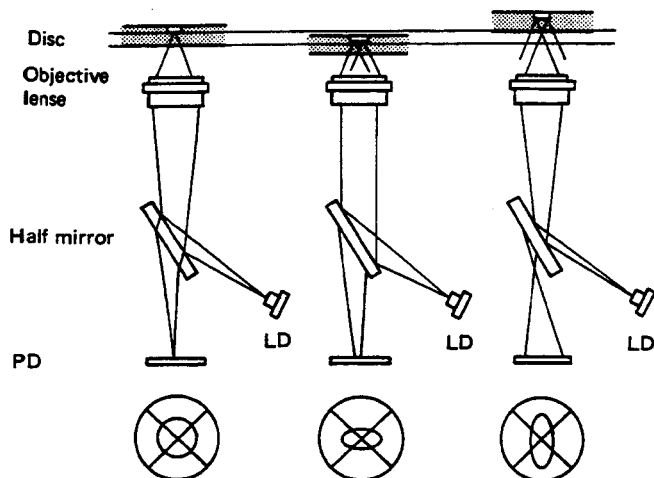
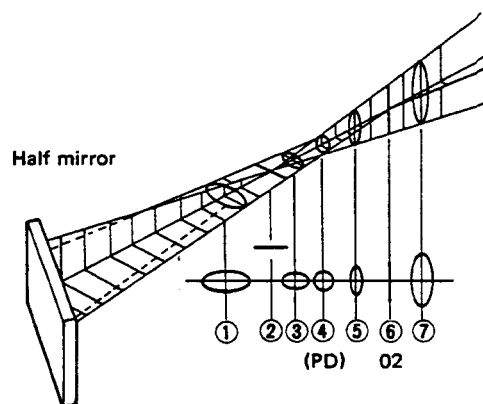

Fig. 2-3
Fig. 2-4 Half mirror
Fig. 2-3 shows how the focus signal is detected. (1) is when the beam from the laser diode is accurately focused on the disc by the objective lens. (2) shows what happens when the disc comes closer to the pickup and (3) shows what happens when the disc moves farther away. The grating and concave lens, which have no direct effect on the focusing are not shown in the diagram.
In case (1), the beam emanating from point O1 is reflected and diffracted on the disc surface to produce the condensed beam (O2). In case (2), the beam is directed at a point farther than that of beam O2. Fig. 2-4 shows the properties of the half mirror. 1 through 7 shows the shape of the beam at each point. Between points 2 and 6, which are in a straight line, the beam is circular at point 4. Point 6 corresponds to beam O2 of fig. 2-3. If we assume that fig. 2-4 shows mode (1) of fig. 2-3, that means the beam is circular because the photo diode is located at point 4. In mode (2) of fig. 2-3, the location of the photo diode is closer to the cylindrical lens than it was in fig. 2-4. That means the shape of the beam is the same as that of point 3 (an ellipse that has a longer width than height). In mode (3) of fig. 2-3, the shape of the beam is that of point 5, an ellipse that has a longer height than width.
These beam shapes are shown in fig. 2-3. By performing a $(A + C) - (B + D)$ computation using the A-D photo diode quartering elements, the focus signal is produced.
If the objective lens is moved closer to the disc until point 7 of fig. 2-4 is reached, the shape of the beam at the photo diode becomes an ellipse that is higher than it is wide.